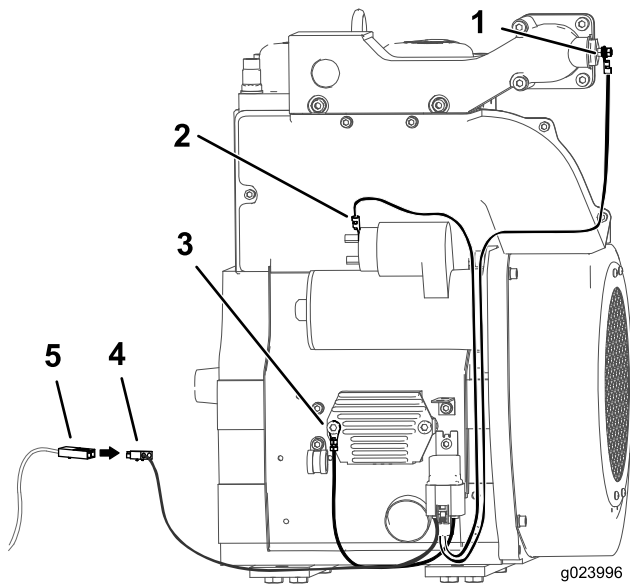

Figure 4
7. Remove the nut on the starter solenoid, place the shortest wire onto the bolt, and install the nut (Item 2 in Figure 4).
8. Remove the nut on the voltage regulator, place the medium wire onto the bolt, and install the nut (Item 3 in Figure 4).
9. Connect the wire with the plastic connector to the wire that is routing up to the rear of the ignition switch (Item 4 in Figure 4).